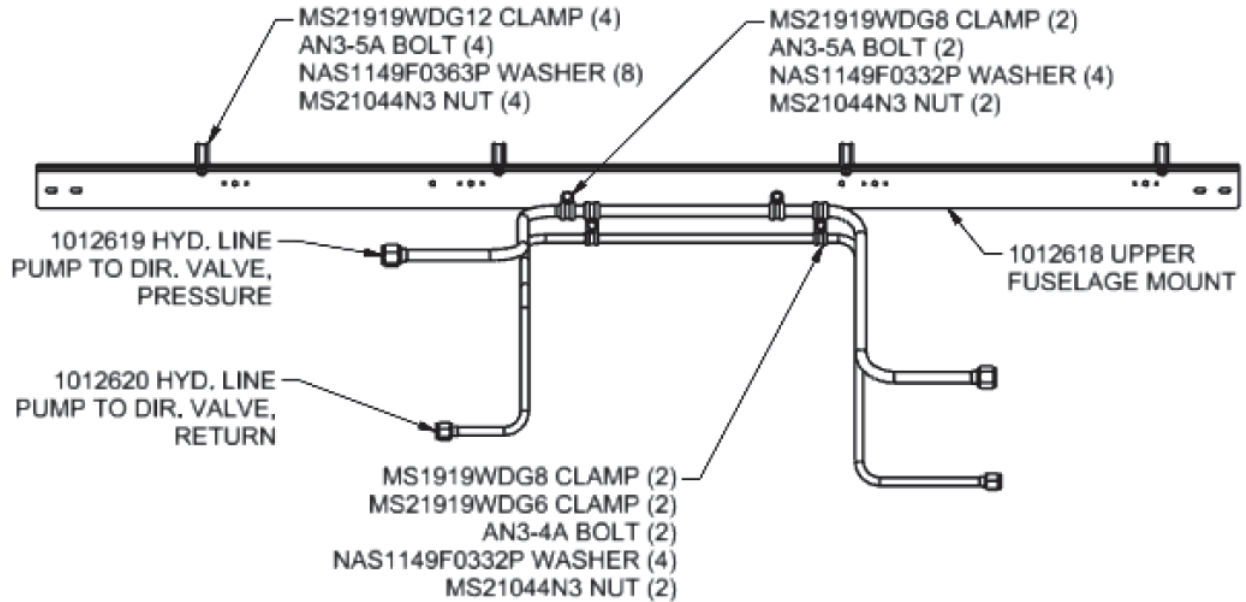

FIGURE 6
- b. Before installing the fuselage upper mount (1012618), attach the hydraulic lines, and clamps as shown in Figure 6. Do not tighten hardware at this point.